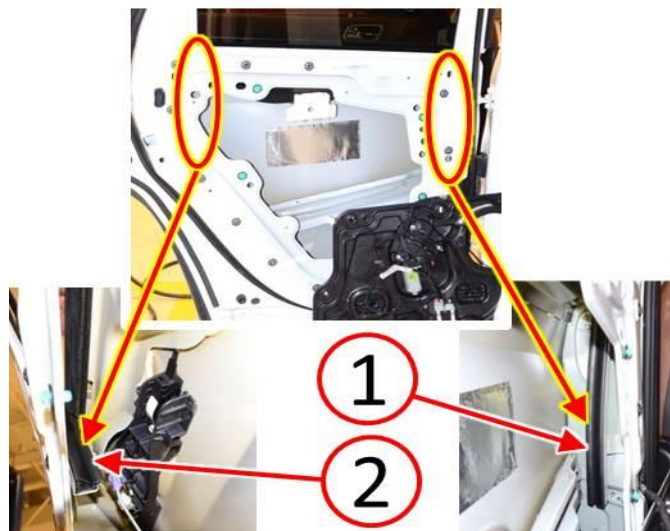

Fig. 21 Ensure Door Glass Run Seal Is Seated In Channel
8. Ensure the door glass run seal front leg (1) and rear leg (2) inside the door are fully seated into the door glass run channel (Fig. 21).